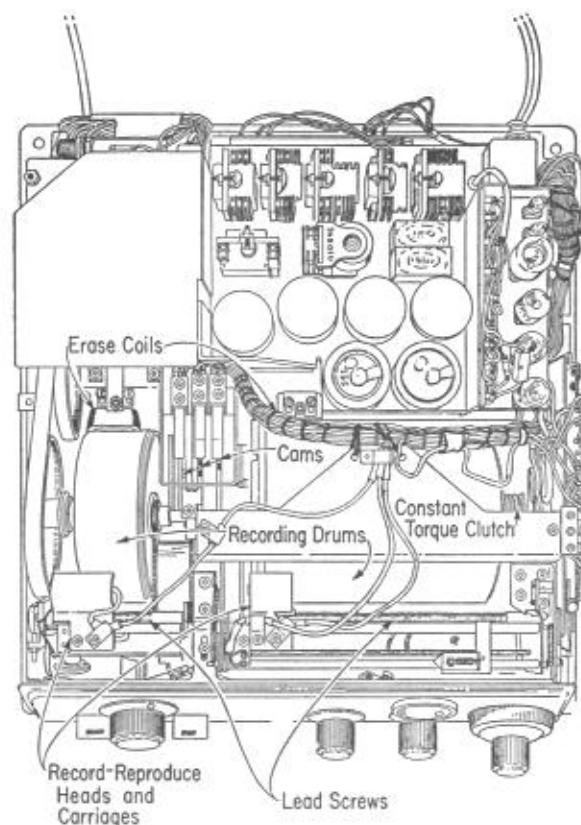

Fig. 2 — 1A and 1AA Answering Set, Top View, Interior
3.01 The mechanical parts within the set consist principally of a motor, belt drive, recording drums, recording head, carriages, lead screws, message selection and indicating means, cams, and erase coils (see Fig. 2 and 3).
a slot in the drum until the pawl is released by a solenoid, allowing the drum to rotate. The record-reproduce heads are each mounted on carriages which slide on horizontal guide rods. Each carriage is moved by a half-nut which engages a lead screw driven by gears from the respective drum (see Fig. 2).